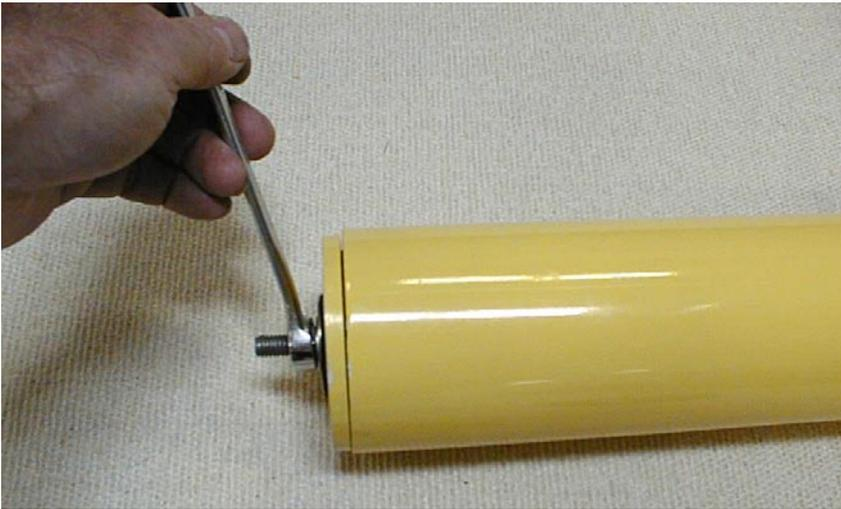

Figure 1 Removing hull seal plug
1. Remove the **hull seal plug** by loosening the nut on the bottom plate and pulling the plug out of the **hull** (Fig. 1).